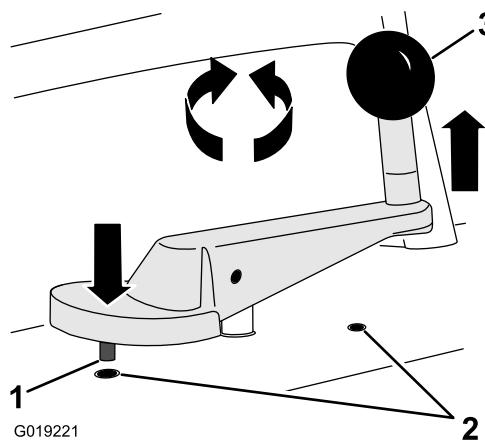

Figure 18
- B. Using the blade elevation crank (Figure 18), rotate the crank counterclockwise to lower the blade until it touches the job-site surface.
- C. Rotate the elevation crank 1 revolution clockwise to raise the blade elevation (Figure 18). The machine is at the **Start Elevation**.
2. Rotate the dial of the blade-depth gauge until the pointer (white) is aligned with the “-0” mark on the gauge (Figure 18).
1. Raise or lower the saw blade by rotating the elevation crank until the desired blade elevation is achieved (Figure 18).
2. If necessary, rotate the elevation crank to align the index pin in the bottom of the crank handle with a index-pin hole in the operator panel (Figure 18).
3. Pull the elevation crank up to engage the index pin in the hole (Figure 18).